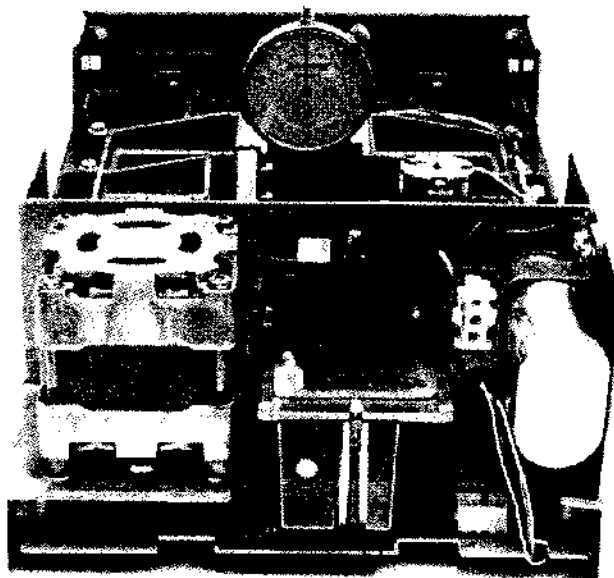

FIGURE 42. DIAL INDICATOR INSTALLATION
- d. Next install the indicator block into the penetration plate until you feel the block snap into place. See Figure 42.